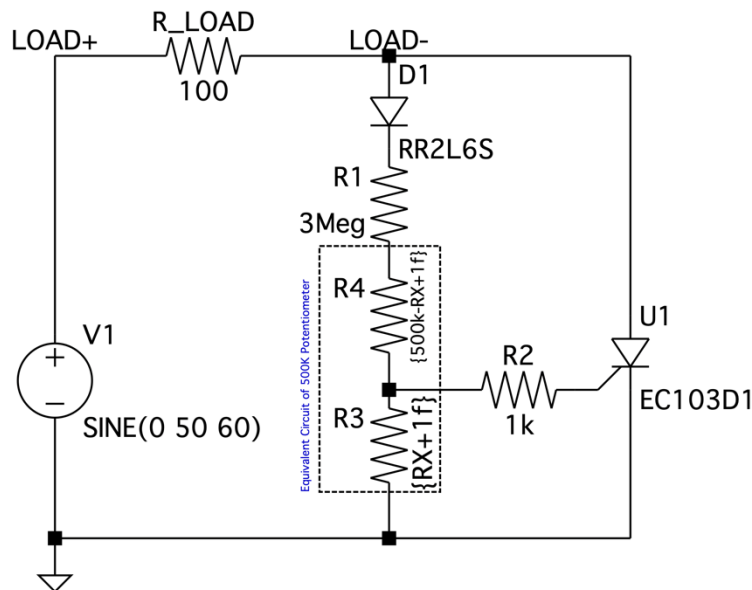

Fig. 2.7 Experimental circuit for Part A
- Construct the experimental circuit shown in Fig. 2.7. Label the terminals across the resistor R_LOAD as LOAD+ and LOAD-. Also, take note that the values of R4 and R3 are parameters $\{500k-RX-1f\}$ and $\{RX+1f\}$, respectively. With this arrangement, R4 and R3 will simulate the sweeping action of a **500k Ω** potentiometer.
- Construct the experimental circuit shown in Fig. 2.7. The value of R2 is a parameter {RX+1n}. R2 will simulate a 400k Ω potentiometer. Set the voltage source V1 to be SINE(...) with an amplitude of 50V and frequency of 60Hz.